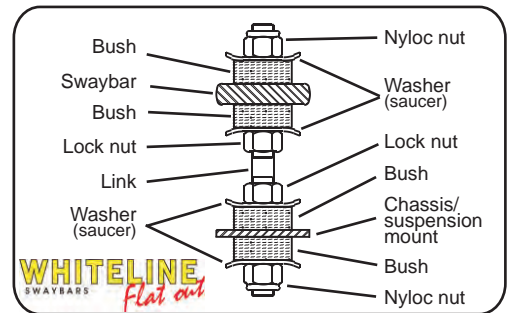

Fig.1. Whiteline double pin type link.
- For swaybars supplied with new links and hardware, refer to Figures 1 to 4 for most common endlink types and their correct assembly.
**Caution:** Do not over tighten swaybar pin type link bushes, refer Fig 1. Nuts should be tightened until washer meets the bush & stops rotating. Then tighten a further  $\frac{2}{3}$  of a turn. Over tightening compresses and pre-loads the polyurethane bush which reduces articulation and may cause premature failure.